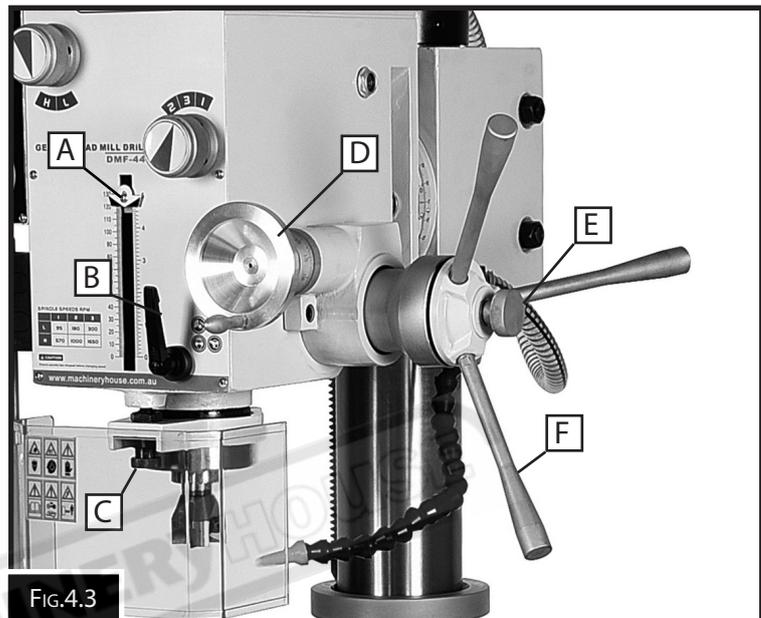

Fig.4.2
H. HIGH/LOW RANGE LEVER: Selects either high or low spindle speed range. (Fig.4.2)
I. SPINDLE SPEED LEVER: Selects one of three spindle speeds in the selected speed range. (Fig.4.2)